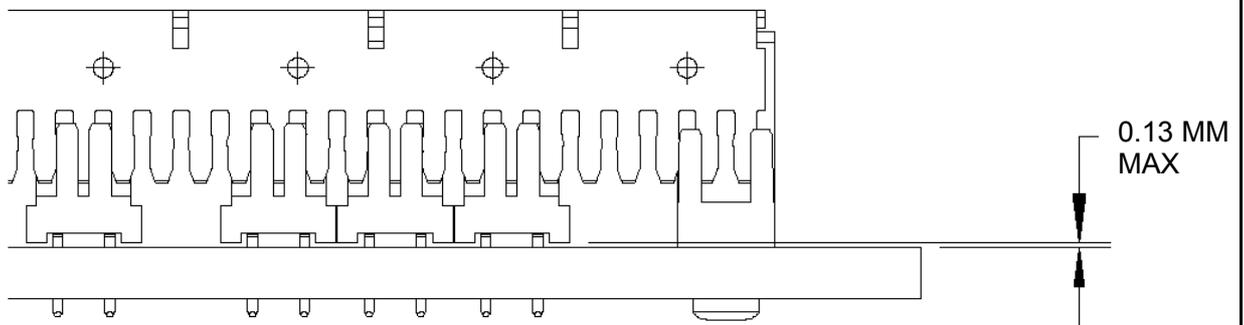

Figure 6.1
- 6.9 Check that connector is fully seated on the PCB and that all compliant tails were pressed in without any bent pins. See Figure 6.1.
After the connector is pressed on the PCB, install 2 screws to each aligner. See Figure 6.1. Torque to 0.20 N-m (1.8 lb-in). The screws should be fully tightened before rail removal to maintain aligner-to-connector module spacing.